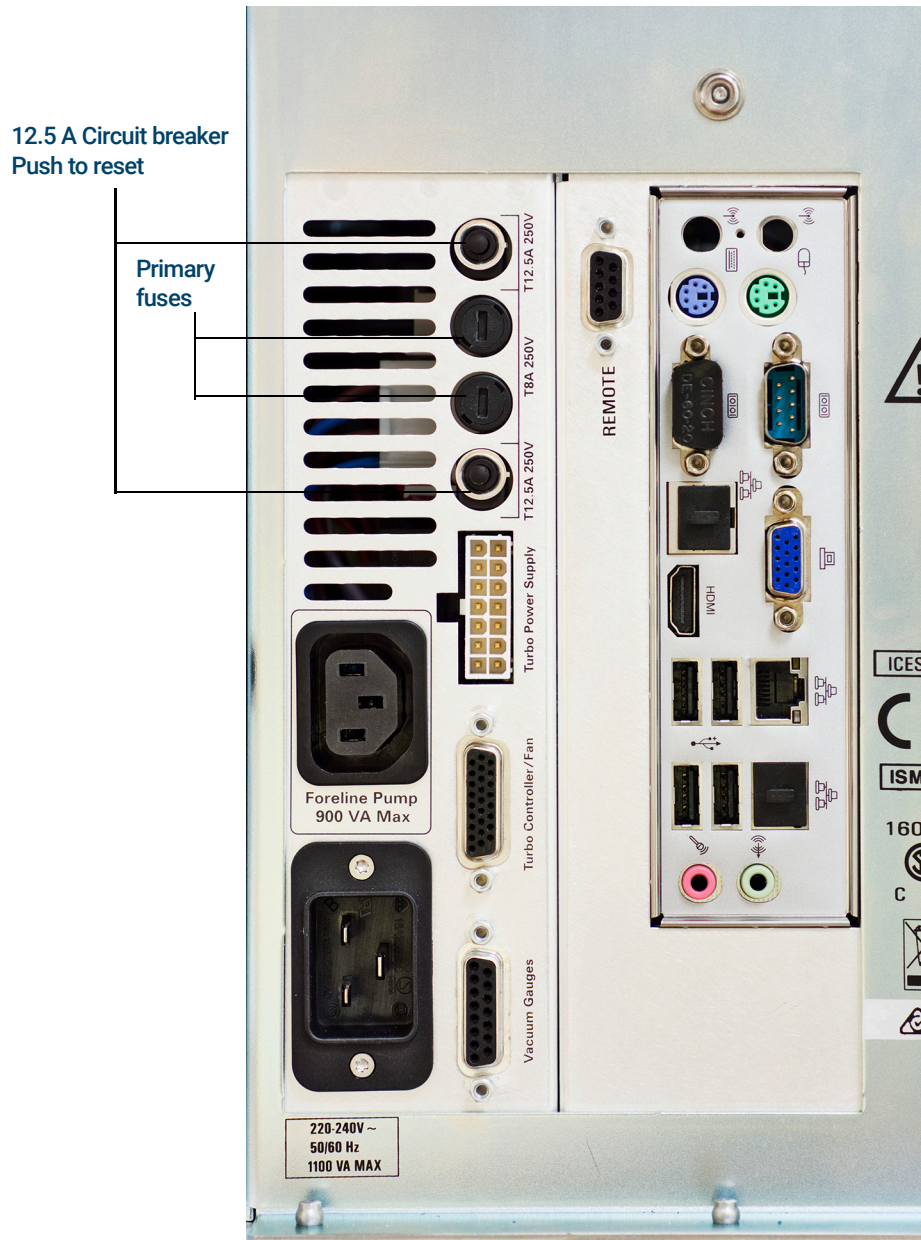

Figure 21. Replacing the fuses
- 1 With the MS off and unplugged, locate and reset (push in) the circuit breakers. (See **Figure 21** on page 123.)
- 4 Locate the fuse holders on the back panel. (See **Figure 21** on page 123.) Use a flat-blade screwdriver to turn one of the fuse holders counterclockwise until it is released. The fuse holders are spring loaded.